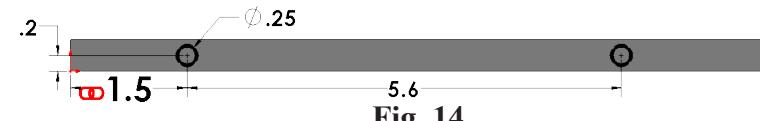

Fig. 14
Step 13. Linked Values icon appears next to the dimension, Fig. 14. Later when we create the cut in the Chassis for the Front Wheel we will link this dimension. Changes made to Linked Values causes the other to change.